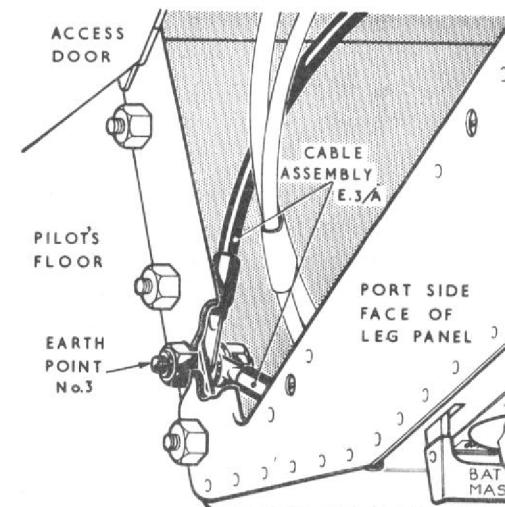

Fig.3. Earth point 3
- (4) Disconnect cable assembly E.3/A from earth point 3, obtaining access via the hinged door in the port side of the leg panel (fig.3).
- (5) Disconnect all the plugs and sockets on the cable assemblies at the leg panel. Seal off the plugs and sockets with approved caps and covers and stow the cable assemblies away from the panel.
- (6) Release the leg panel from its mountings by removing the nine bolts from around the bottom, forward, and side faces of the panel. Remove the leg panel from the cabin complete with cable assembly E.3/A.